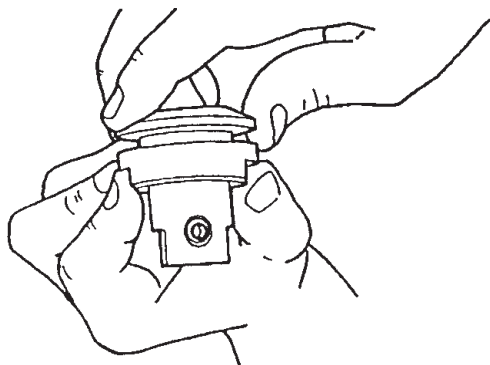

Figure C-22
15. Loosen the base lock (2). Firmly grasp the way tubes and lower the headstock into the horizontal position, then engage the power mount knob.
- a. Remove the arbor nut by turning it clockwise, as seen in Figure C-22. Hold the arbor with the threaded part pointing to the left.